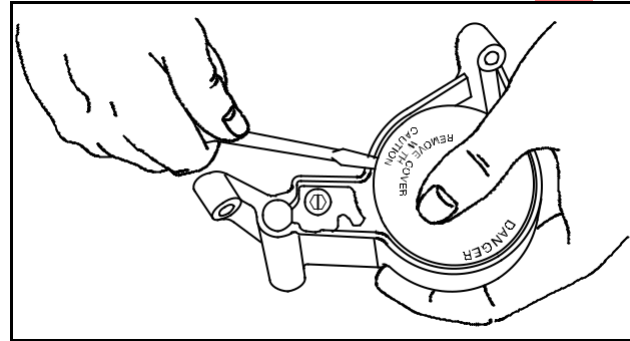

Fig. 618 – REMOVING COVER
4. Note the warning on the plastic cover, then use a screwdriver as shown in Fig. 618 to remove the cover.